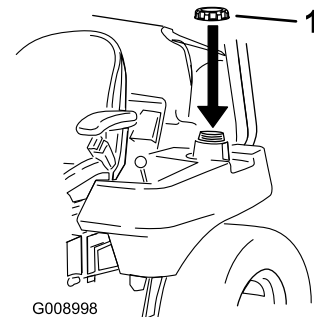

Figure 8
- Remove both existing fuel caps and replace them with the new fuel caps (Figure 8).